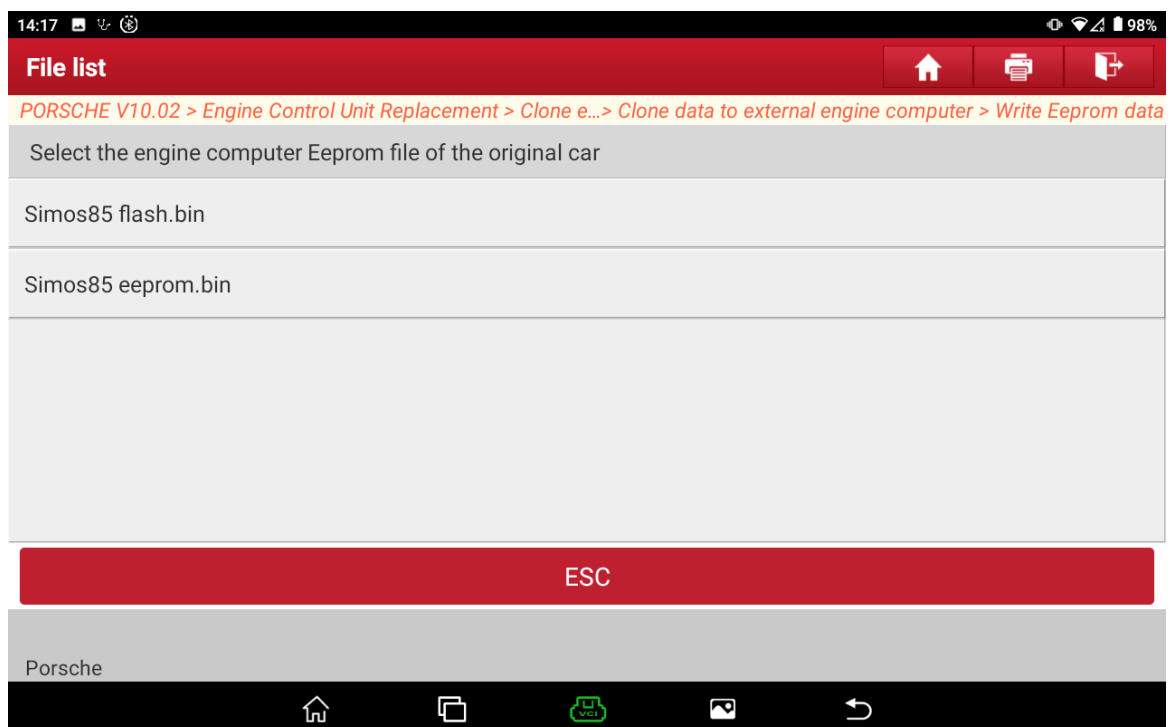
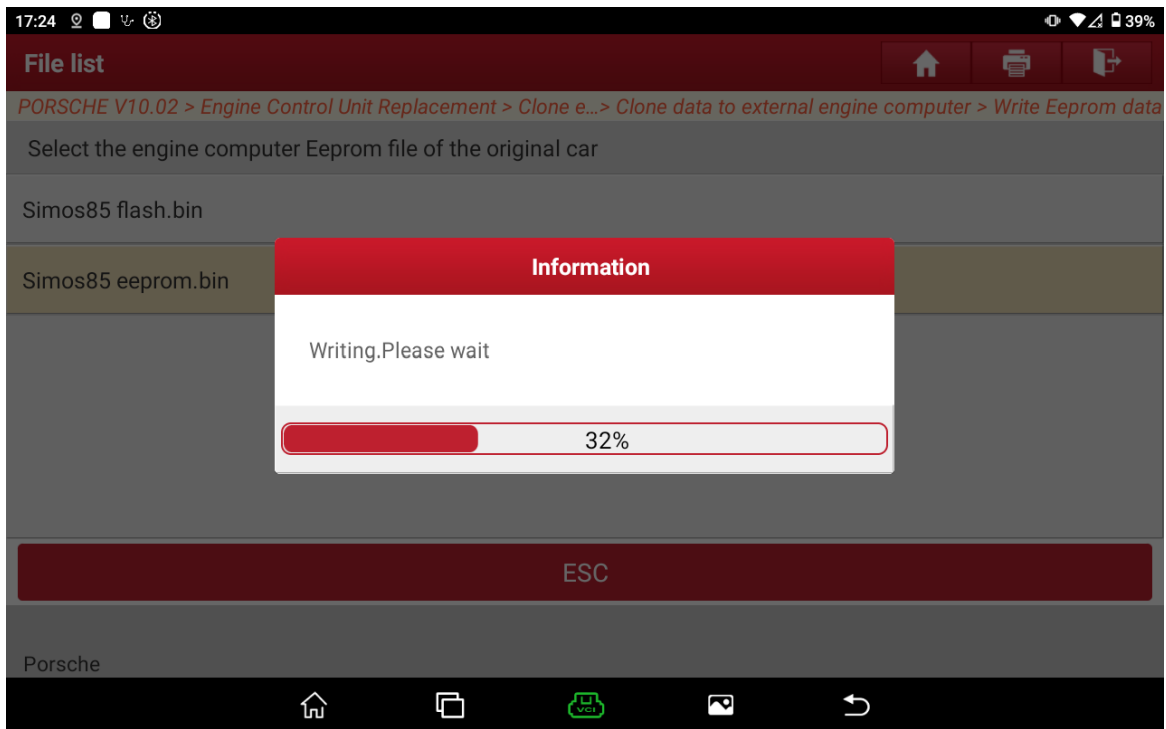
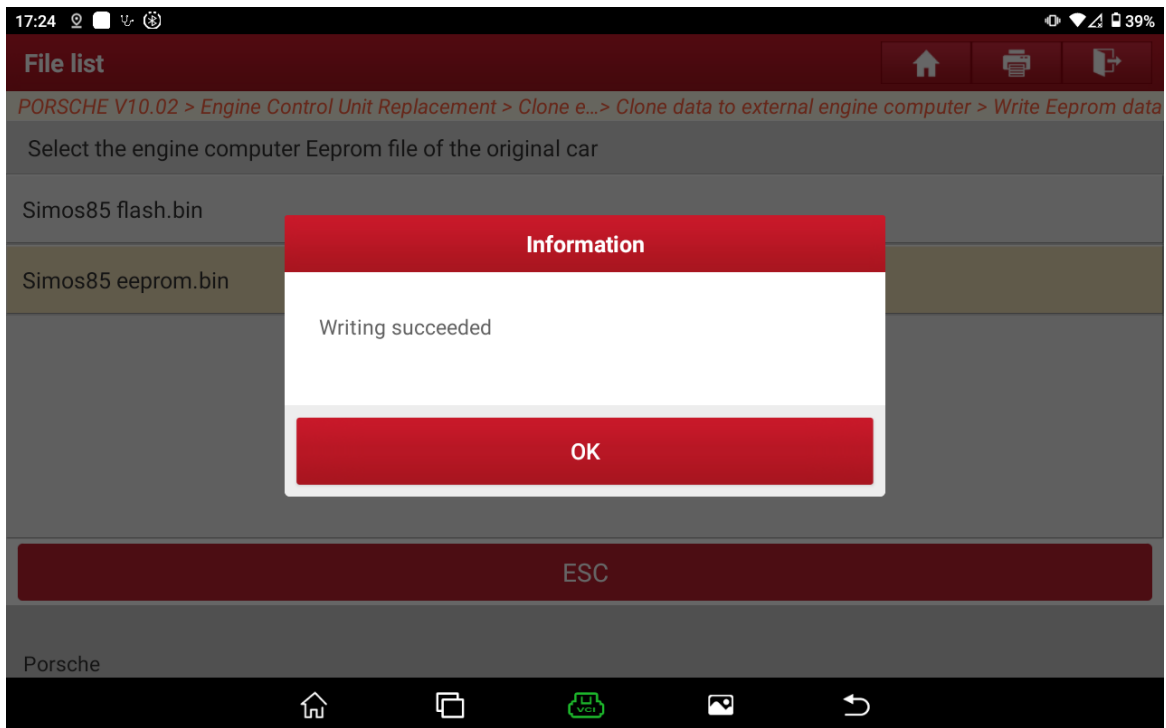

Figure 16
Figure 17
Figure 18
11. Execute [Write Eeprom data] and select the backed-up Eeprom data file, as shown in Figure 16, Figure 17, and Figure 18.